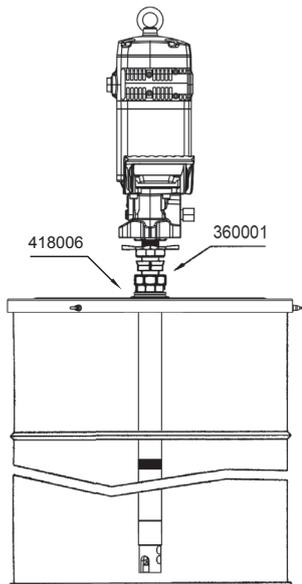

Fig. 3
- b. Mounting with cover (418006 for 185 kg drum and 418016 for 50 kg drum) and bung adaptor 360001. Fasten the cover onto the drum and screw the nut of the bung adaptor securely into the 2" bung opening of the cover. Insert the pump through the nut and adjust it with the star nut to the desired height (see figure 3).
Introduire le tube par l'écrou et le placer à la hauteur désirée à l'aide de la fausse bonde (fig 3).